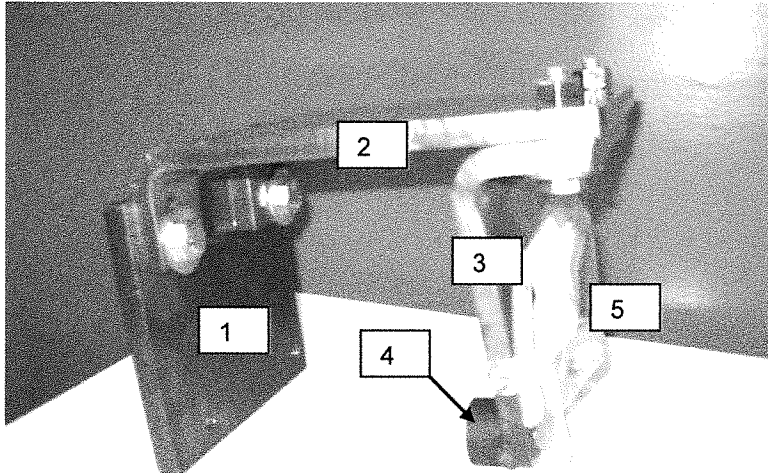

FIG 1 – Gearbox Torque Plate Assembly
- The Gearbox Torque Plate is a manufactured bracket assembly which must be bolted to the gearbox. After bolting the assembly onto the gearbox, the step chain drive sprocket can be secured to the torque plate bracket with an expanding bushing which locks into a sprocket hole. (See Fig 1 which shows the Torque Plate assembly.)
After tightening the mounting bolts, attach the standoff plate (item 2) identified in FIG 1, tightening the bolts by fingers only, so the plate may be positioned as required.